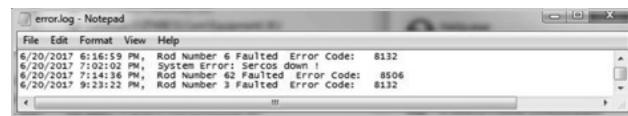
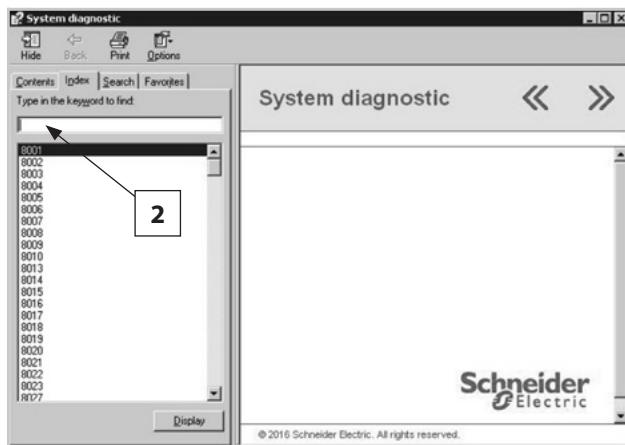

Figure 95
Figure 96
The Error Log button opens a Notepad window with a list of all errors that occurred on the system (Figure 95). The system can handle over 500+ error entries (500K word limit).
The MANUAL button opens the System Diagnostic screen (Figure 96). The System Diagnostic is used to manually enter an error code and diagnose the problem. The error code can be read from the pop up error messages (Figure 92) or from the Error Log (Figure 95).
2. In the Index tab, type in the error code and click display (Figure 96).